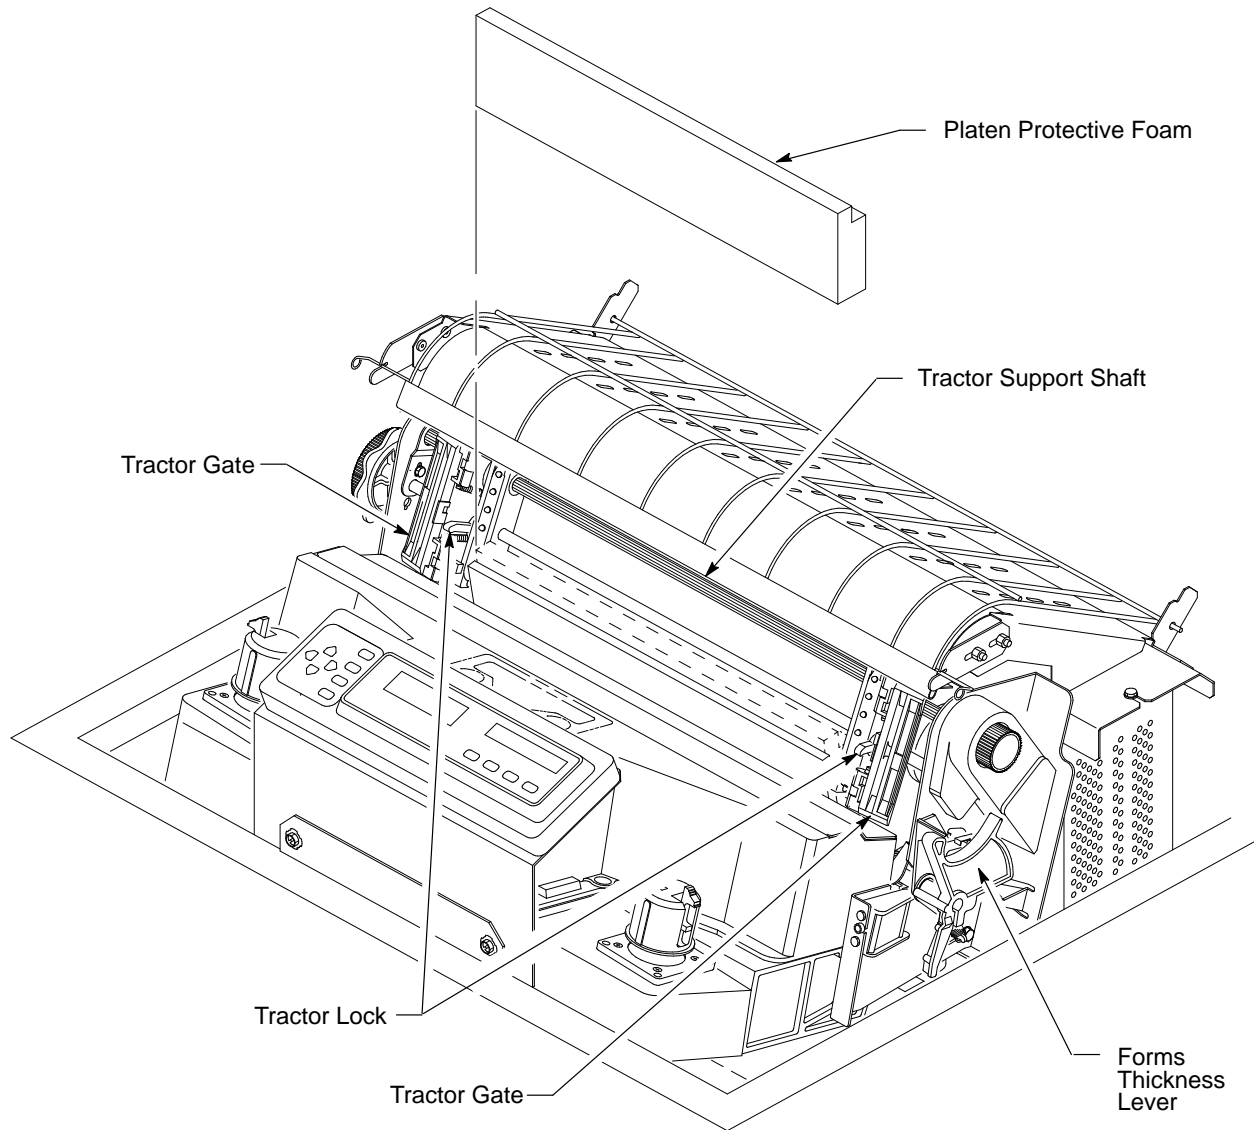

Figure 2-3. LG06: Platen Protective Foam
1. Open the tractor gates. Push the tractor locks down. Move the tractors outward as far as they will go. (See Figure 2-3.)